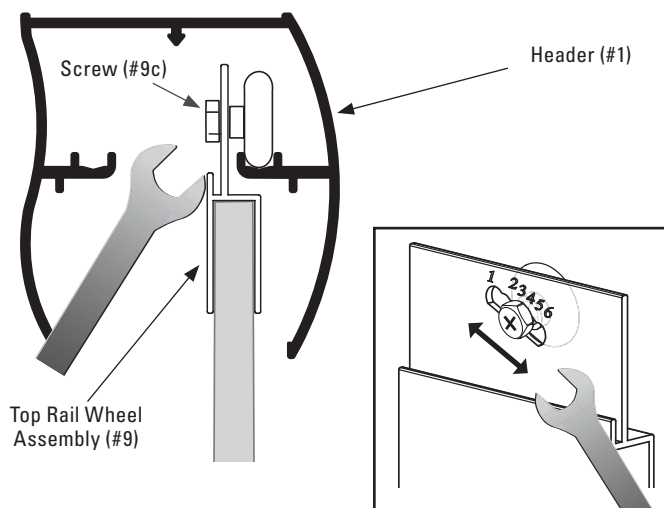

Figure 8
B. One or more of the Wheels may need to be adjusted to properly align the Door Panels. With the Door Panels in the correct position, remove pressure by slightly lifting the Door Panel. Using a 1/4" open end wrench, loosen the #8-32 x 3/8" PHWH Screw securing the Wheel and slide the Wheel in either direction (See **Figure 8**) until the Door Panel touches the top and bottom Panel Locator/Bumpers at the same time. Tighten the Screw. Repeat until both Panels are properly adjusted.